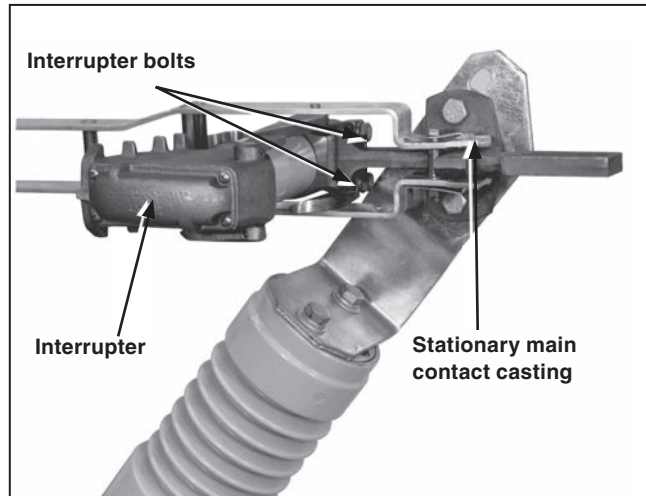

Figure 43. Adjusting the interrupter position.
- (e) If adjustment is required, loosen the bolts that fasten the interrupter to the stationary main contact casting and reposition the interrupter. See Figure 43.